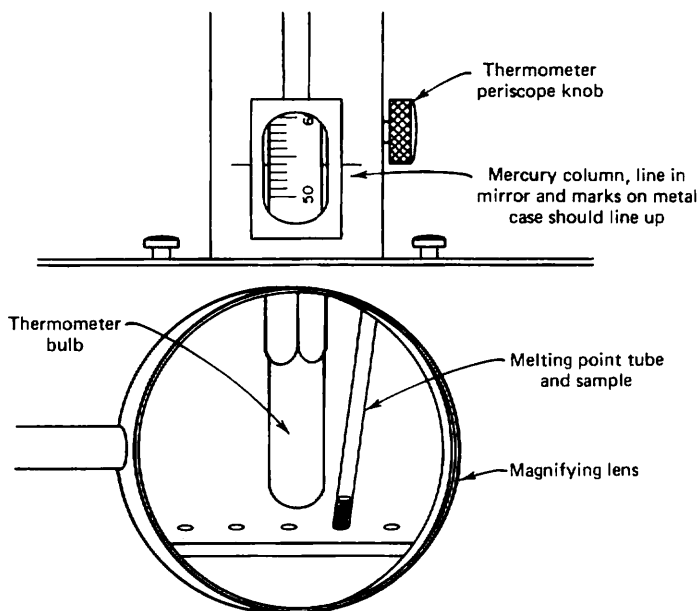

Fig. 53 Reading the temperature.
13. When the first crystals *just start to melt*, record the temperature. When the *last crystal just disappears*, record the temperature. If both points appear to be the same, either the sample is extremely pure or the temperature rise was *too fast*. If you record the temperature with the horizontal index line in the mirror matched to the lines etched on both sides of the periscope window and the top of the mercury thread at the same time, you'll be looking at the thermometer scale head on. This will give you the smallest error in *reading* the temperature (Fig. 53).